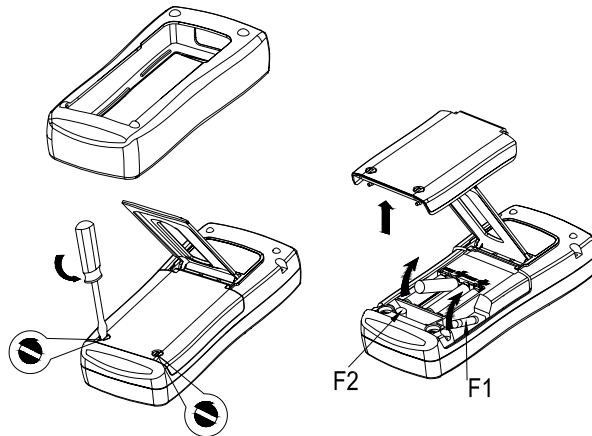

Figure 16 - Replacing batteries and fuses
Step 2: Remove the protector as shown in Figure 16. With a standard blade screwdriver, turn each battery door screw a quarter turn counter-clockwise to remove the battery door.
Step 3: Replace with four (4) new AAA alkaline batteries using the instructions shown on the battery door. Replace the blown fuses with same type F1 (50mA/250V) or F2 (63mA/250V).